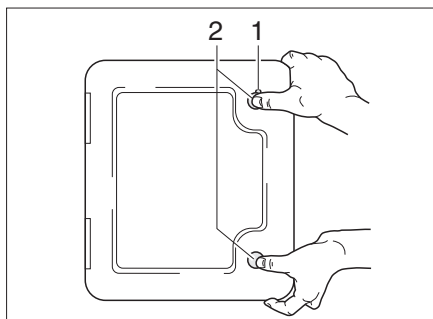

Fig. 7 External flap Thetford cassette
- Insert the key into the locking cylinder of the push-button lock (Fig. 7,1) and turn a quarter turn.
- Press both push-button locks (Fig. 7,1 and 2) simultaneously with your thumb and open the external flap.
- Insert the key into the locking cylinder (Fig. 7,1) and turn a quarter turn.